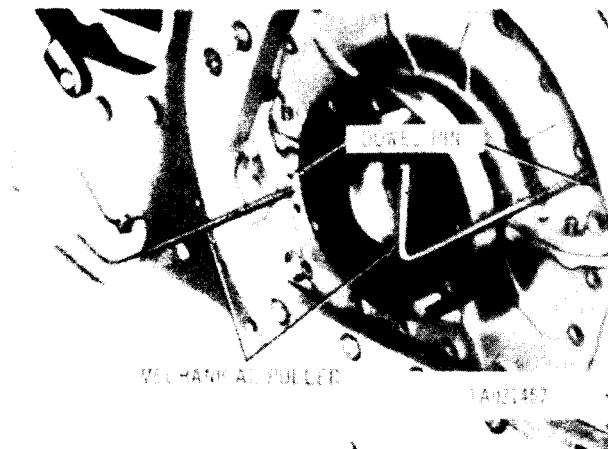
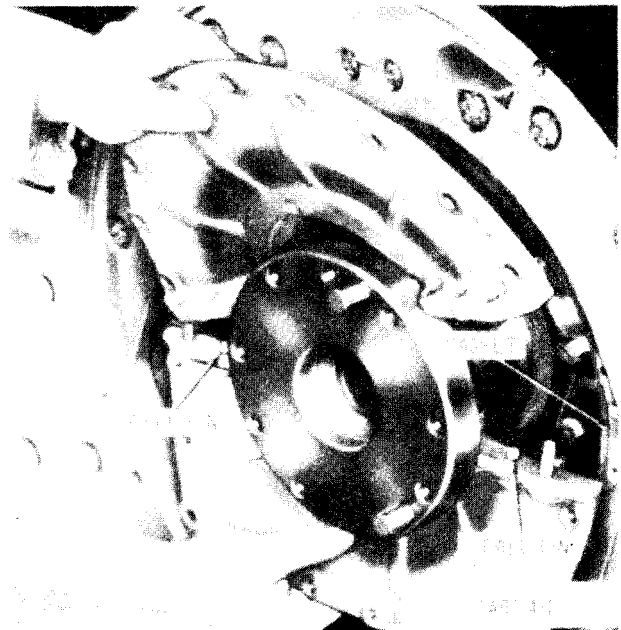

Figure 2-101. Removing oil seal housing using mechanical pullers.
Figure 2-102. Removing or installing oil seal housing cap and housing.
(6) Install two mechanical pullers, Part No. 5739997 (fig. 2-101) and pull cap and housing free of dowel pins. Remove mechanical pullers and separate oil seal cap from dowel pins in housing and remove housing cap and housing as shown in figure 2-102. Remove and discard gasket.
(3) Install oil seal housing and oil seal housing cap (fig. 2-102) using new gasket, over oil seal and on dowel pins. Secure oil seal housing cap and housing to crankcase with twenty bolts and flat washers (fig. 2-100). Secure bolts with locking wire.